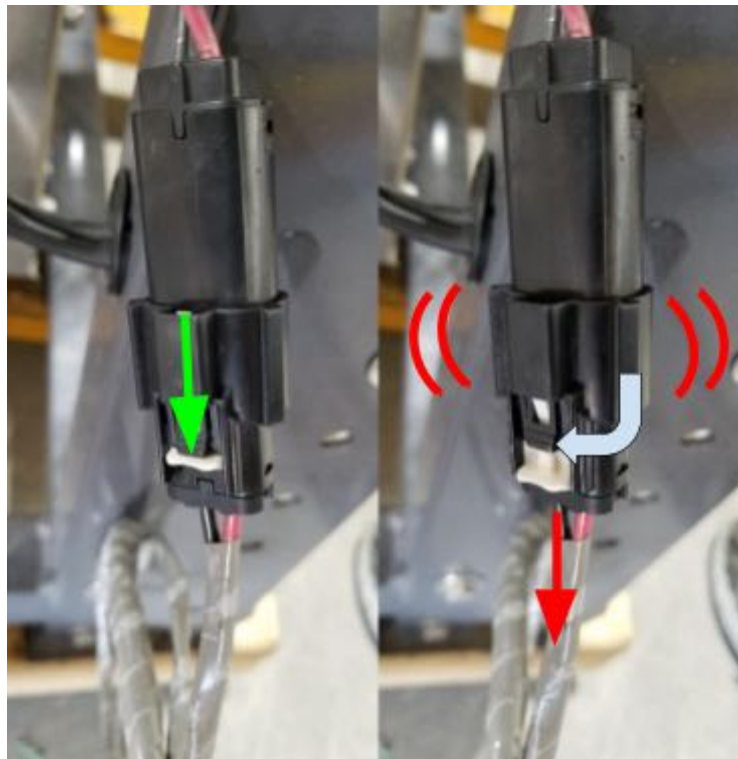

Figure 6) Steps for Disconnecting the Power Cable
3. Push down on the black latch and wiggle the connector back and forth while pulling it outward. (See Figure 6)